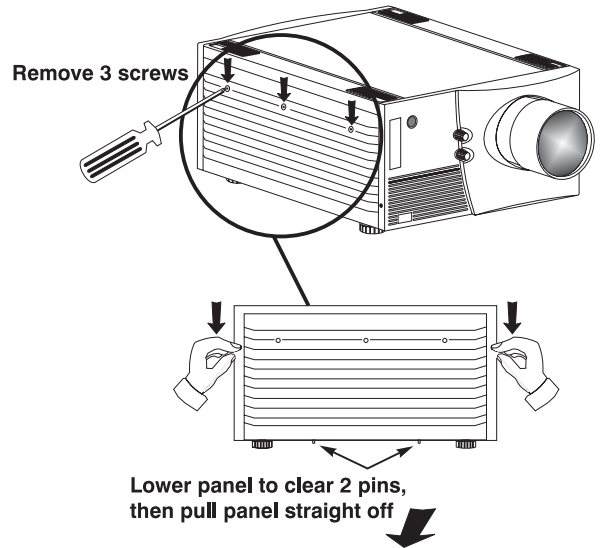

Figure 4.2. Remove the left side panel
- See Figure 4.2. Remove the 3 screws securing the projector's left side panel.